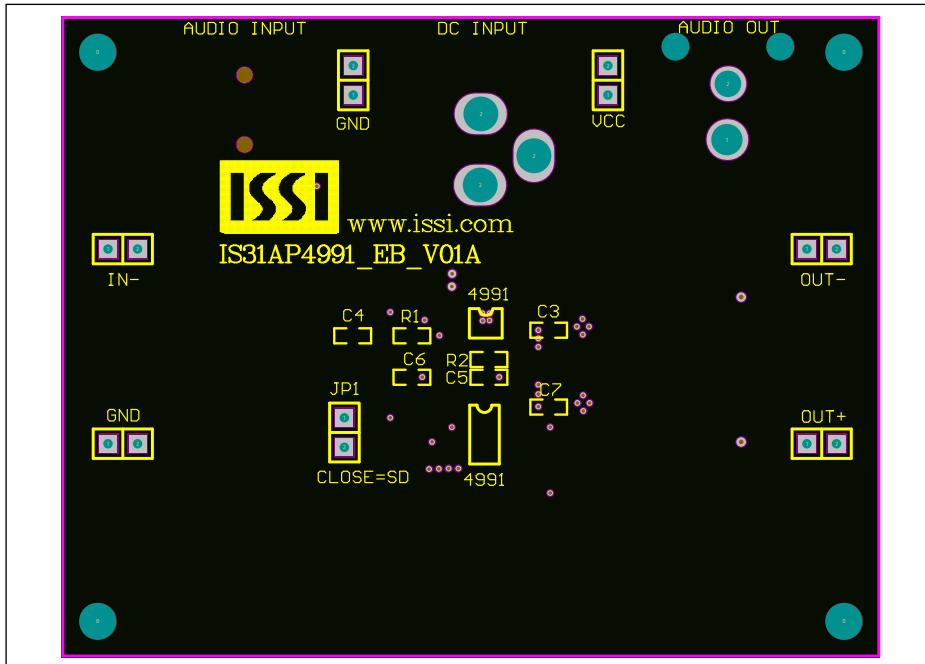

Figure 2: Board Component Placement Guide - Top Layer
*Bill of materials, refers to Figure 2 above.*